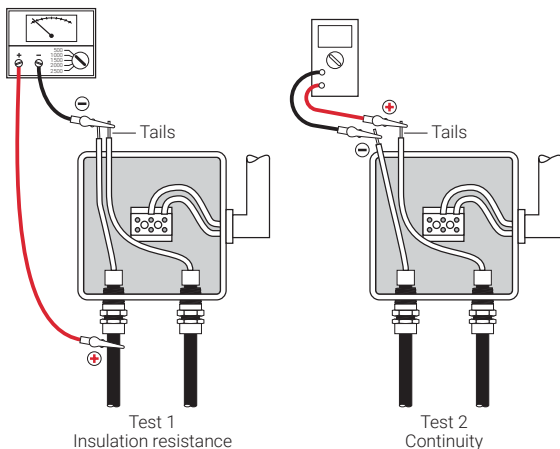

Figure 45: Insulation resistance and continuity test
4. Connect the positive (+) lead to the heating cable sheath (Figure 45).
9. Check the continuity (resistance) of the heating cable between the two tails (Figure 45). Record the resistance value in the Heating Cable Installation Record in Section 11.